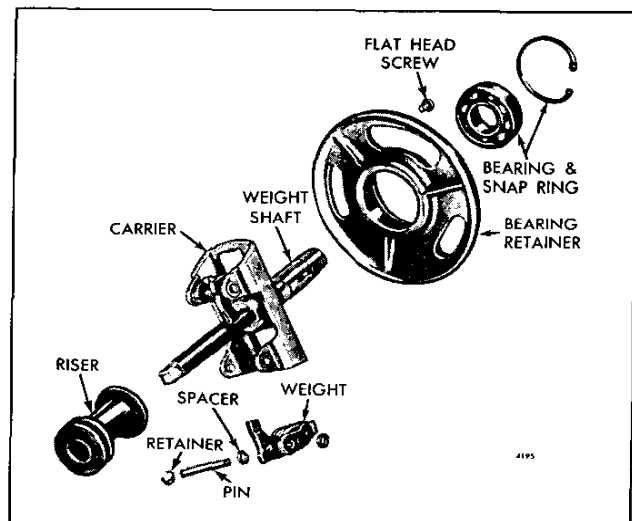

Fig. 3 - Governor Weight Details and Relative Location of Parts
2. Remove the small flat head screw (Fig. 3) which holds the bearing retainer in place.
1. Press the bearing retainer (Fig. 3) from the weight shaft.